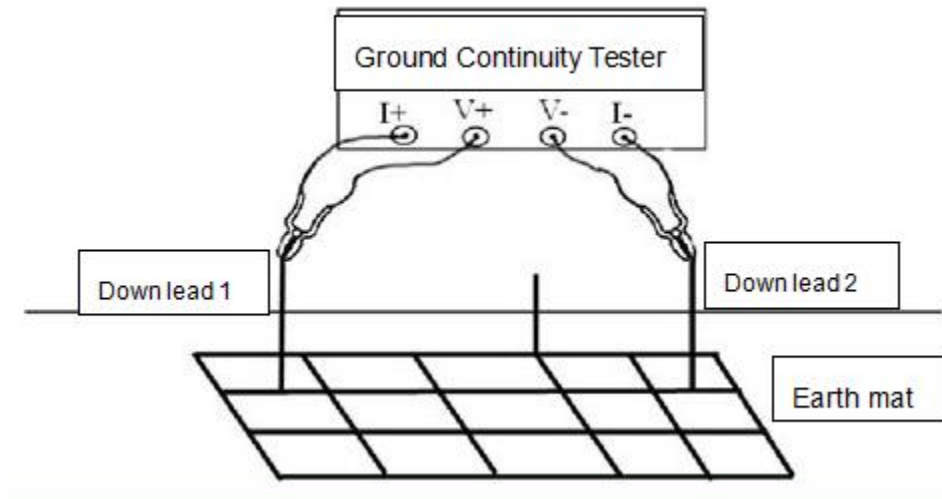

Figure 3 Four-terminal Wiring diagram
- 1、Wire as shown in the Figure 3.